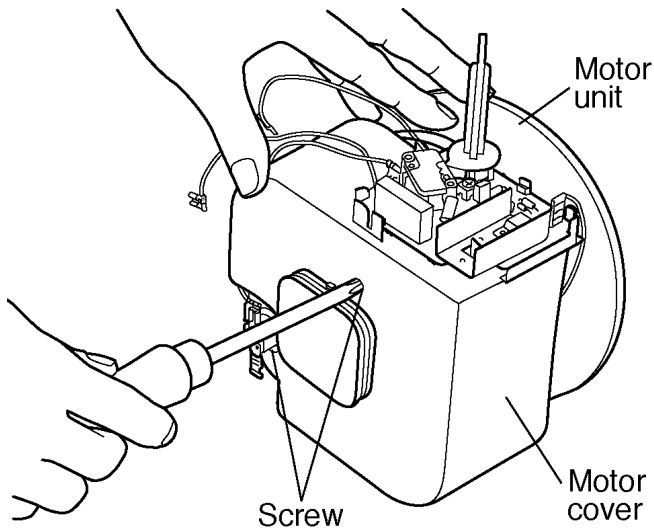

Fig.5
5. Take out motor unit and remove 2 screws to take out motor cover. (Fig. 5)